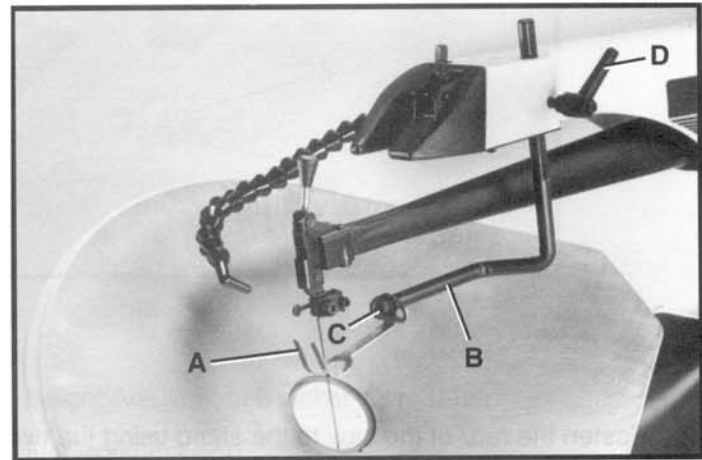

Fig. 10
1. With wrench supplied, assemble holddown foot (A) Fig. 10, to rod (B) using 1/2" long hex socket head screw (C) with lockwasher and flat washer. Prongs of holddown foot (A) should straddle blade.
2. Adjustment to holddown rod (B) Fig. 10, can be made by loosening lock handle (D) and raising or lowering rod (B). Tighten lock handle (D). **NOTE:** Lock handle (D) Fig.10, is spring-loaded and can be repositioned by pulling outward on the handle and repositioning it on the stud located underneath the hub of handle (D).